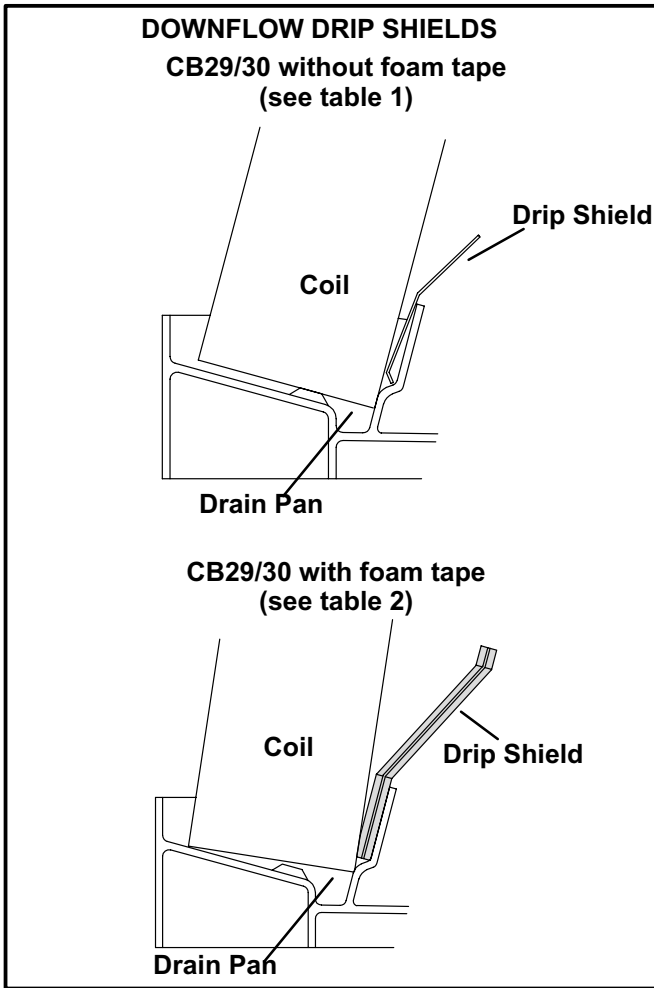

FIGURE 9
- 6 - From the underside of the coil, install the downflow drip shield firmly in place. See figure 9.